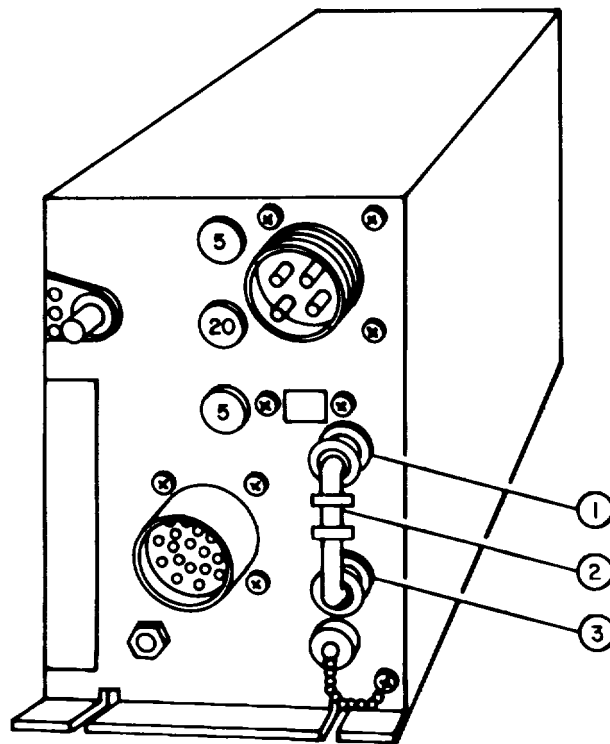

Figure 3-8. AM-7201/U Amplifier-Coupler Connector Adapters
- (1) Refer to figure 3-8. Twist knurled portion of two connector adapters (1 and 3) at connections to amplifier-coupler so that guide pins move from the locked position. Gently pull assembled unit of two connector adapters (1 and 3) and middle connector adapter (2) from amplifier-coupler.
- (2) Twist knurled portions of middle connector adapter (2) so that guide pins move from the locked position. Gently pull two connector adapters (1 and 3) from middle adapter (2).